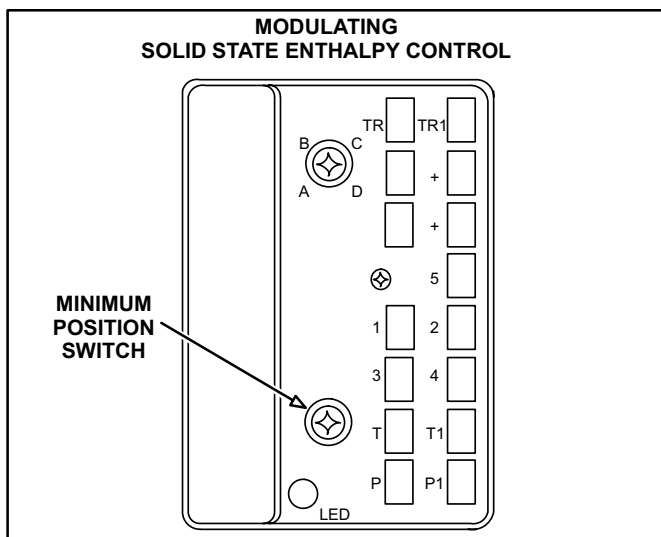

FIGURE 40
- 4 - Install jumper across enthalpy control terminals T and T1. See figure 40 for location.
- 7 - Remove T and T1 jumper then restore power to the unit. Outdoor damper should drive to minimum position. Adjust minimum damper position pot located on control. See figure 40.